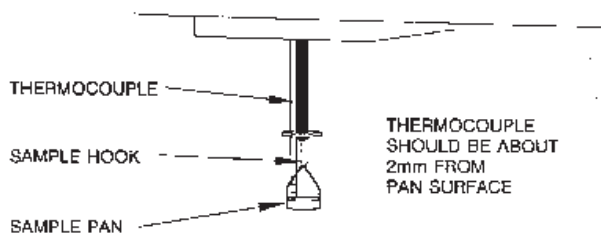

Figure 5.3
9. Load a sample pan to make sure that the end of the thermocouple does not touch it (Figure 5.3).